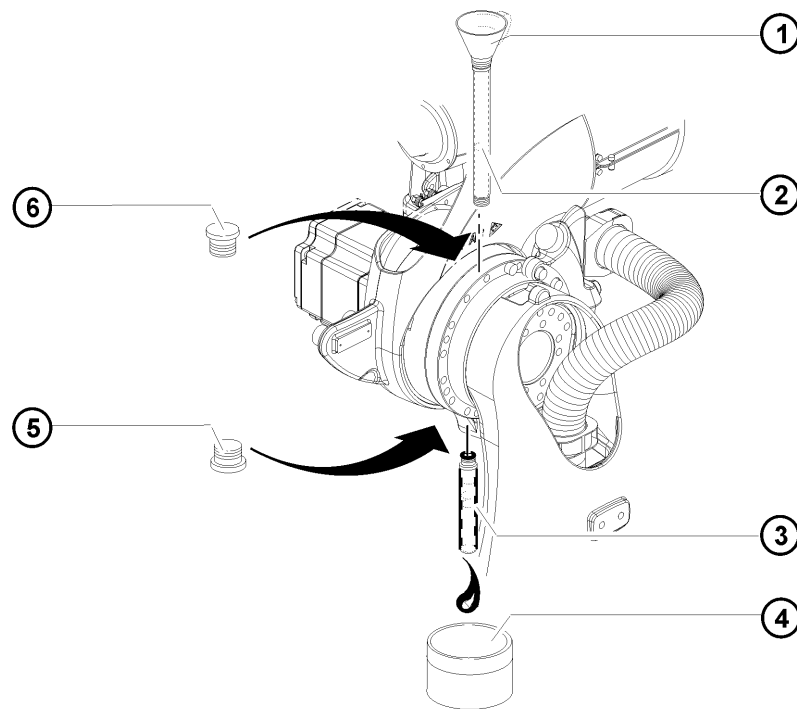

Fig. 9-4: Oil change on axis 3
1. Place a suitable receptacle under the oil drain hole (>>> Fig. 9-4).
1. Screw in the hose at the top (>>> Fig. 9-4).